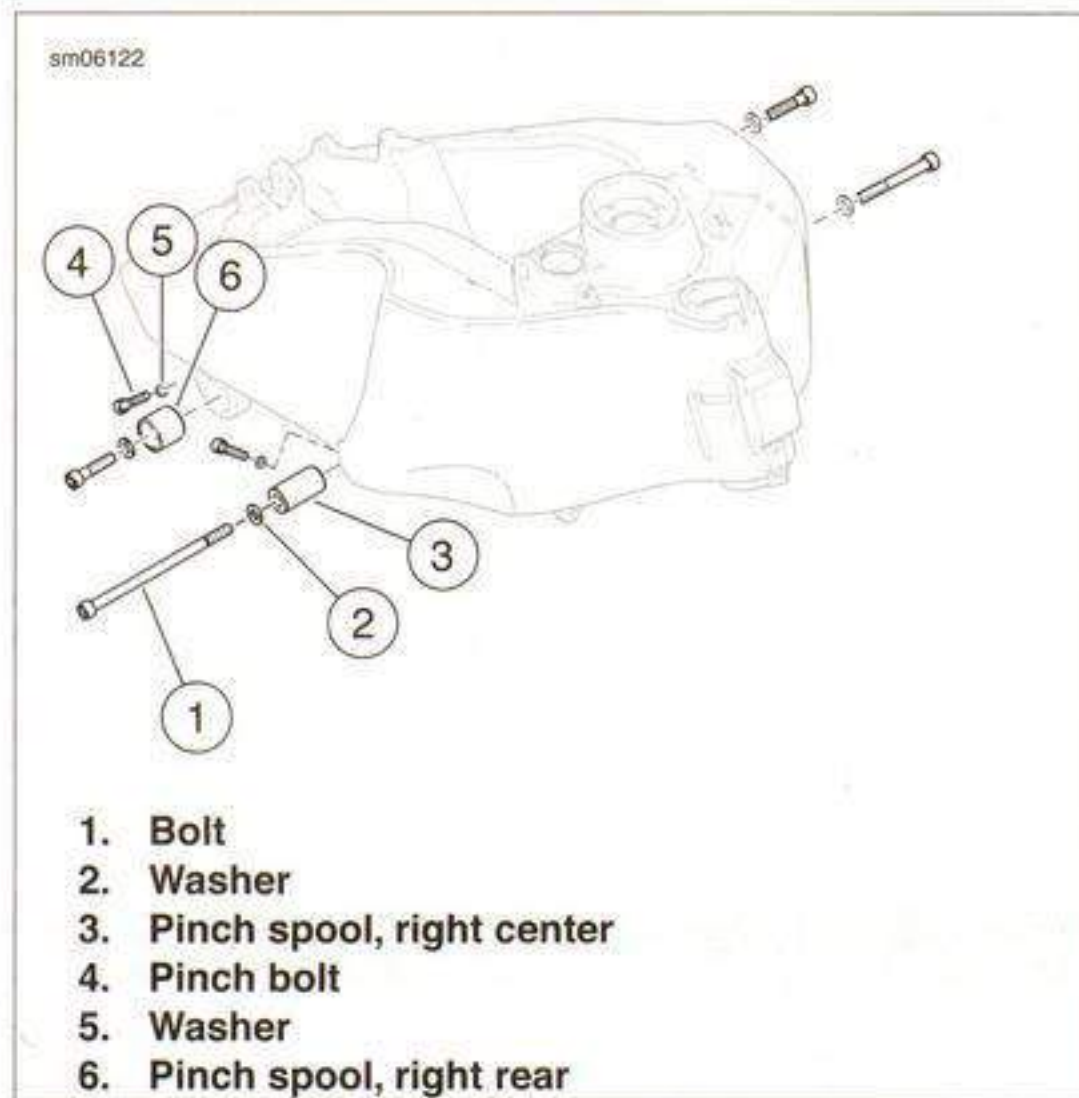

Figure 2-114. Motor Mounts
1. See Figure 2-114. Install pinch spool (3) in right center motor mount.
2. Install pinch spool (6) in right rear motor mount.
3. See Figure 2-114. Install bolts (1) and washers (2) and tighten motor mount fasteners to 46-51 Nm (34-38 ft-lbs).
4. Install pinch bolts (4) and washers (5) and tighten to 24.5-27.0 Nm (18-20 ft-lbs).